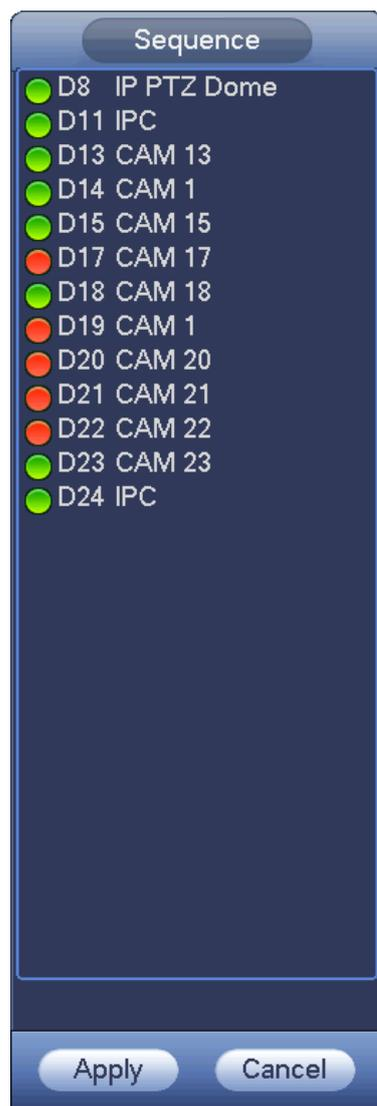

Figure 2-68
Enter edit view interface. See Figure 2-68.
- In case the channel amount has exceeded the device max split amount, the edit view interface can display the max screen number amount and current screen number. In Figure 2-68, click  or , switch the video from other channel.